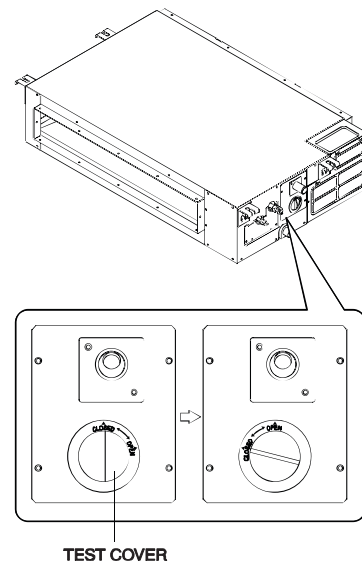

Fig. 38 — Check the Bends and Joints for Leakage
1. Remove the test cover by rotating it counter-clockwise (see Fig. 38).